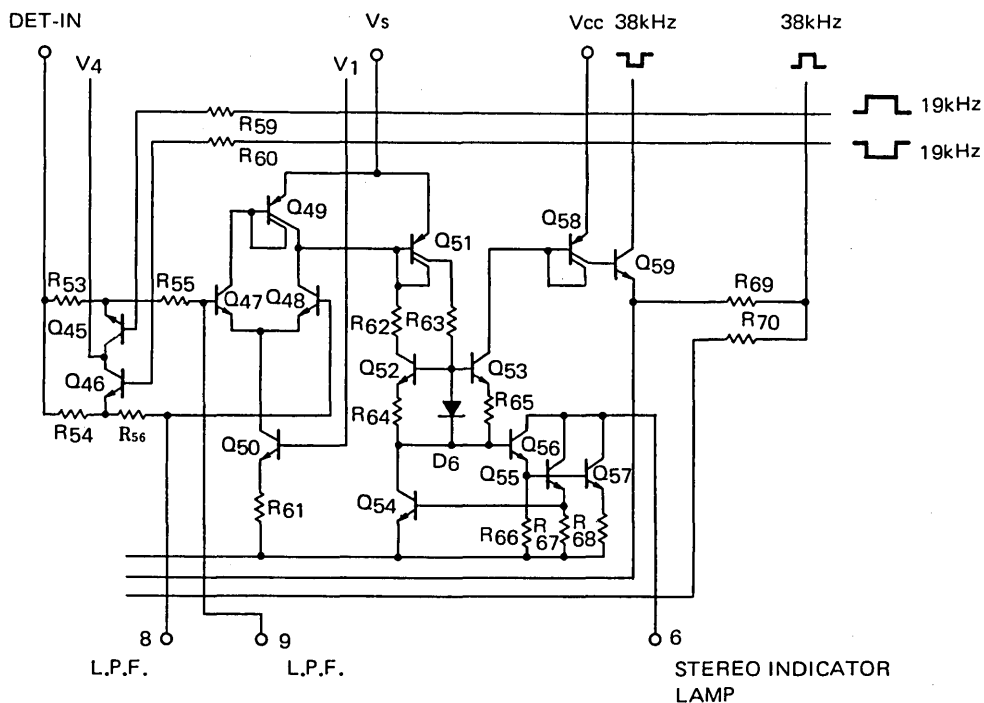
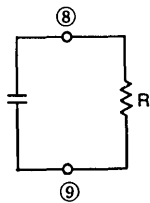

Fig. 7 Lamp Driver Circuit.
Fig. 13
Fig. 7 shows a lamp driver circuit with its auxiliary circuits. Transistors Q45 and Q46, resistors R53, R54, R55, R56, R59, and R60, with the addition of external discrete capacitors (8) and (9) form the phase detector circuit and low-pass filter. In the phase detector circuit the product is formed by the 19kHz (obtained by counting down the 76kHz frequency produced by the VCO with a bistable multivibrator (flip-flop)) injected from the bases of Q45 and Q46 and the pilot signal contained in the stereo signal. The high frequency components of the product are eliminated by the L.P.F., and only terms concerning the phase difference remain. This 19kHz signal differs 90° in phase with the 19kHz signal required by the PLL loop circuit (That is, it is in synchronization with the phase of the pilot signal), and when the phases are precisely in step the DC component obtained through the phase detector circuit and L.P.F. will be at maximum level, and when the phases shift the DC component will decrease. This change in the level of the DC component will move in a positive direction at terminal (8), and a negative direction at terminal (9). This state, when expressed as an equation will take the following form.
The method of adjusting the lighting level of the stereo lamp is made clear from the characteristics of the circuit of Fig. 7. That is, the lighting level can be changed by varying the input ON level of the differential amplifier composed of transistors Q47, Q48, Q49, and Q50. Ordinary, the base potential of transistor Q48 will rise when the 19kHz pilot signal increases, and this ON level will reach a value determined by selecting the collector current of Q47 at a value four times that of Q48. Therefore, the lamp lighting level can be changed by varying the offset voltage of the above differential amplifier. Methods of changing this are shown in Figs. 13 and 14.